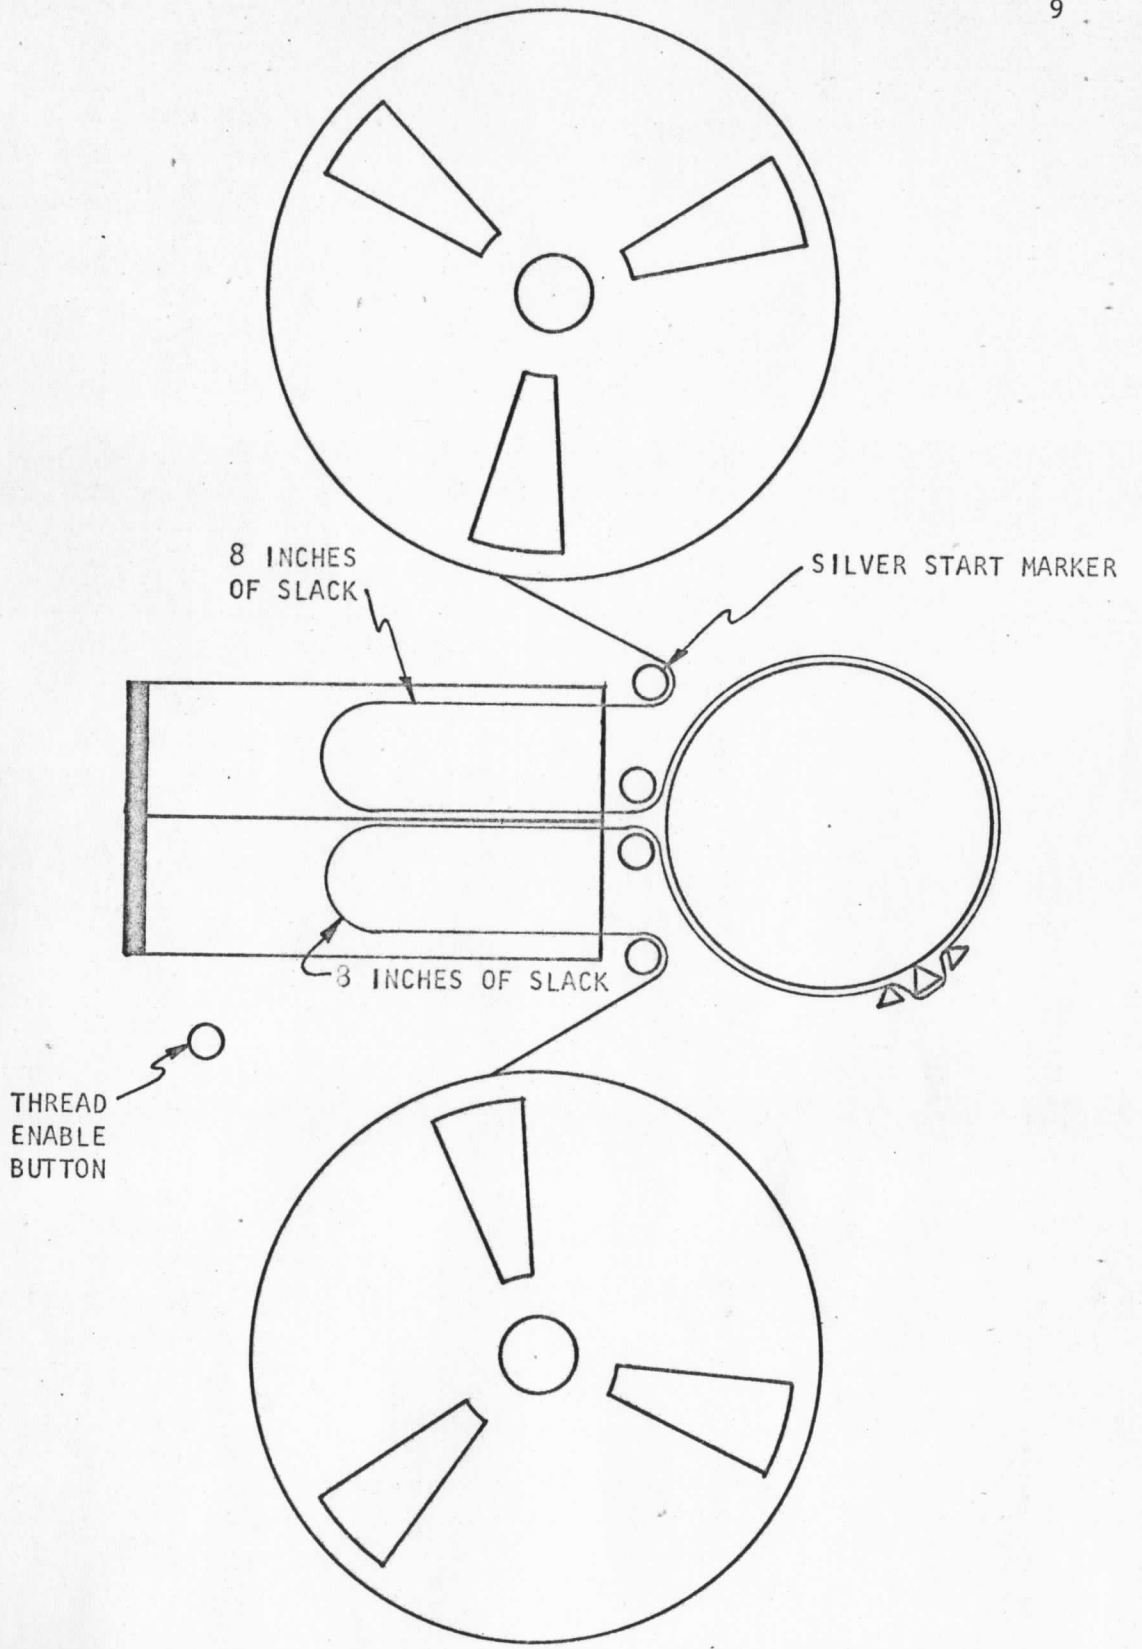

FIGURE 1
5. Thread the recorder as shown in figure 1 putting the silver marker on the tape over the post shown. If no silver marker is on the beginning of the tape go to step 6 otherwise go to step 7. Allow about eight inches of slack on each reel.
6. Place a small piece of the silver tape provided in the room on the tape over the top post as shown in figure 1 and a small piece on the tape reel to signify that the reel has a start mark.